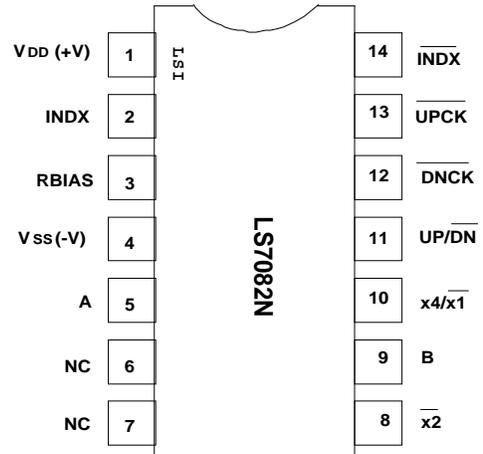

FIGURE 1
- LS7082N (DIP); LS7082N-S (SOIC) - See Figure 1